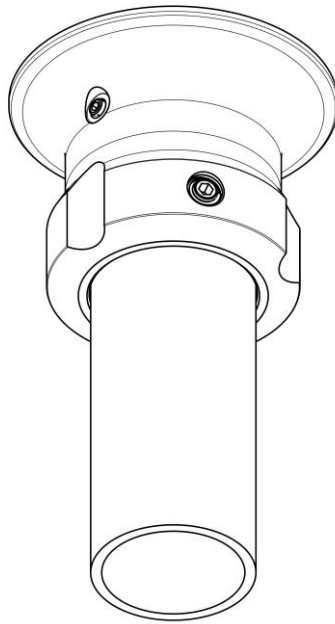
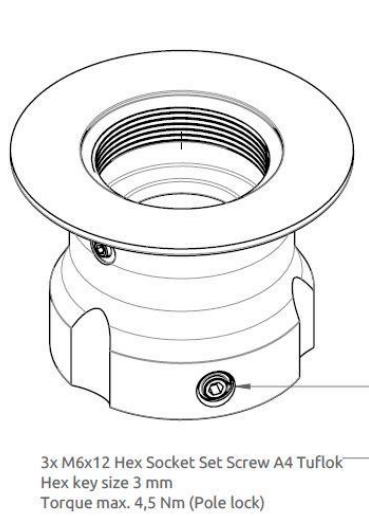
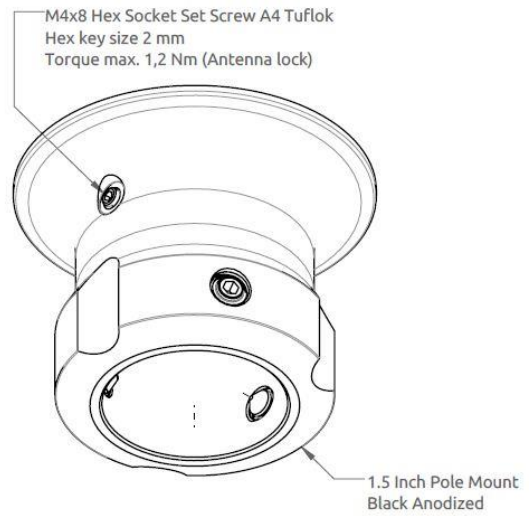

Figure 18: Pole Mount (1.5" tube), Antenna Unit.
Figure 19: Pole Mount (1.5" tube), Antenna Unit.
Figure 20: Pole Mount (1.5" tube), Antenna Unit.
The Pole Mount (1.5" tube), Antenna Unit is illustrated in Figure 18 to Figure 20.
4. Screw the pole mount (clockwise) on the LT-3130 Antenna Unit, and fasten the antenna lock pinot screw, as illustrated in Figure 20 (max torque = 1.2 Nm)
5. The LT-3130 Antenna Unit and pole mount can now be mounted on the 1.5" tube. Fasten the three pole lock pinot screws, as illustrated in Figure 19 (max torque = 4.5 Nm)
The Pole Mount (1.5" tube), Antenna Unit only support a 1.5" tube. The pinot screws (antenna and pole lock) torques are specified in Figure 19 and Figure 20. The pole mount is made of milled aluminum (anodized). The pinot screws are made of A4 stainless steel.